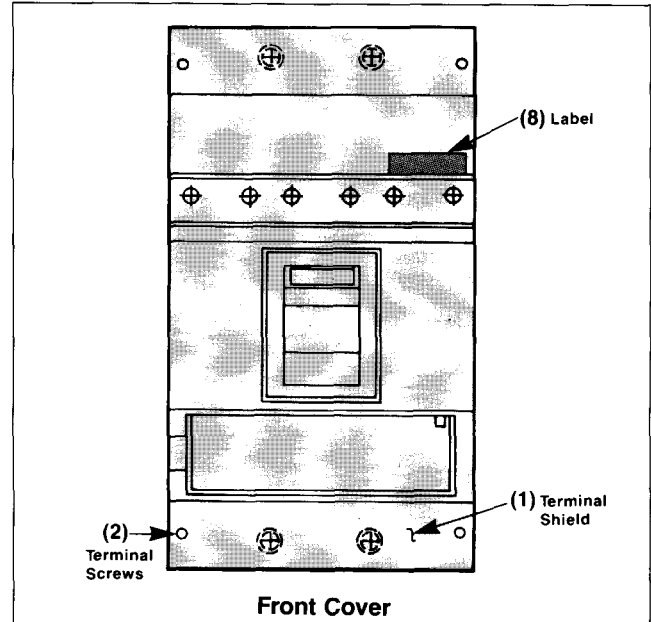

Figure 3
- Replace the breaker terminal shields (1) on the line and load side of the circuit breaker and secure with four breaker terminal shield screws (2). Tighten to 12 in. lb.
- Affix label (this device is equipped with rear connecting studs) (8) to the front of the circuit breaker (Figure 3).
- I. Replace the breaker terminal shields, (1) on the line and load side of the circuit breaker and secure with four breaker terminal shield screws (2). Tighten to 12 in. lb. (Figure 3).
- J. Affix label (8) (This device is equipped with rear connecting studs) to the front of the circuit breaker (Figure 3).